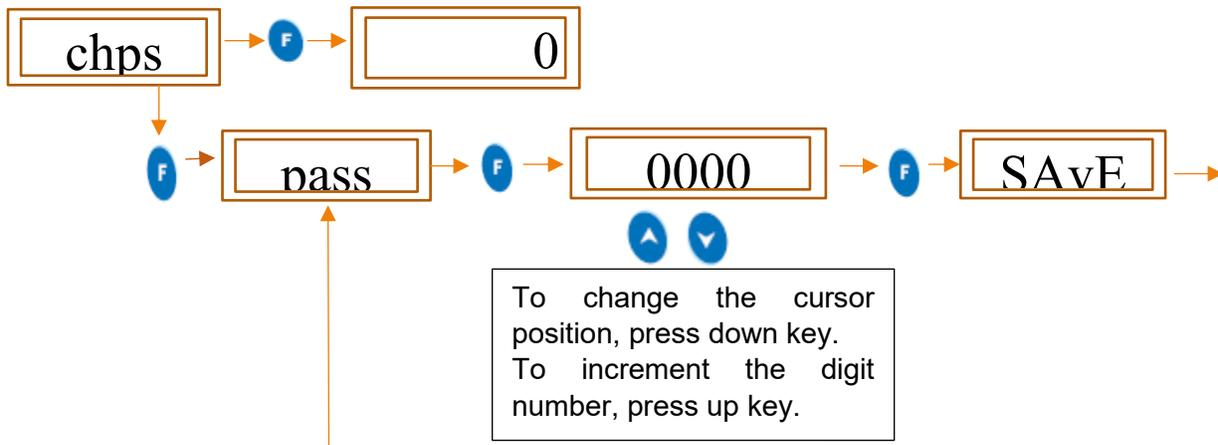

Figure 22 CHPS (Change Password)
- If PSEN Option is enabled by user, then user can change password by following the steps displayed in figure 22.